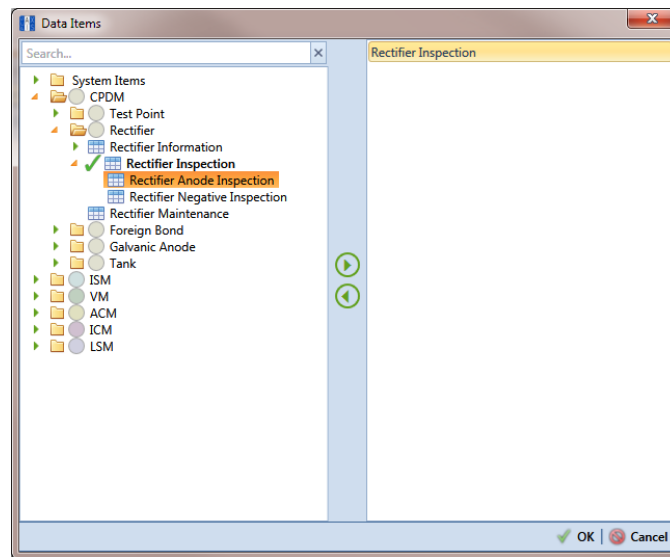

Figure 10-7. Data Items Selected
- 9 Select the data item(s) you want to import in PCS Axis. Click  **Add Data Item** to open the *Data Items* window (Figure 10-7), and then complete the following steps:
- a Open the folder(s) containing the data item(s) you want to import. Repeat this step as needed for other folders. For example, the folders *CPDM* and *Rectifier* are selected in Figure 10-7.
- b Double-click to select a data item and move it to the right pane of the window. Repeat this step as needed for other data items. For example, the data item *Rectifier Inspection* is selected in Figure 10-7.
- 8 Select the PCS Axis data item used to import SDL survey files. Click  **Add Data Item** to open the *Data Items* window and then complete the following steps (Figure 10-7):